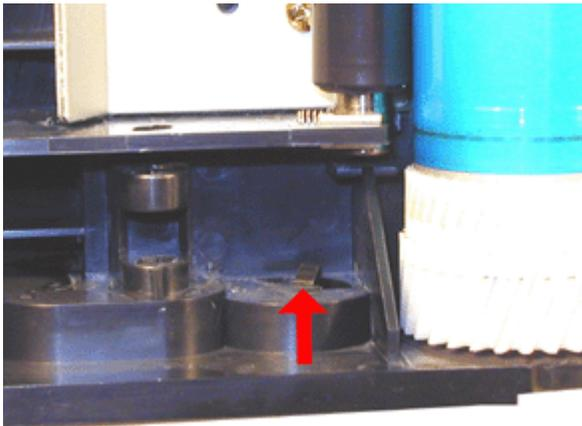

FIGURE 7
4. Press in on the tab of the drum cover hinge arm to release the hinge. Remove the entire cover and place aside. See Figure 7